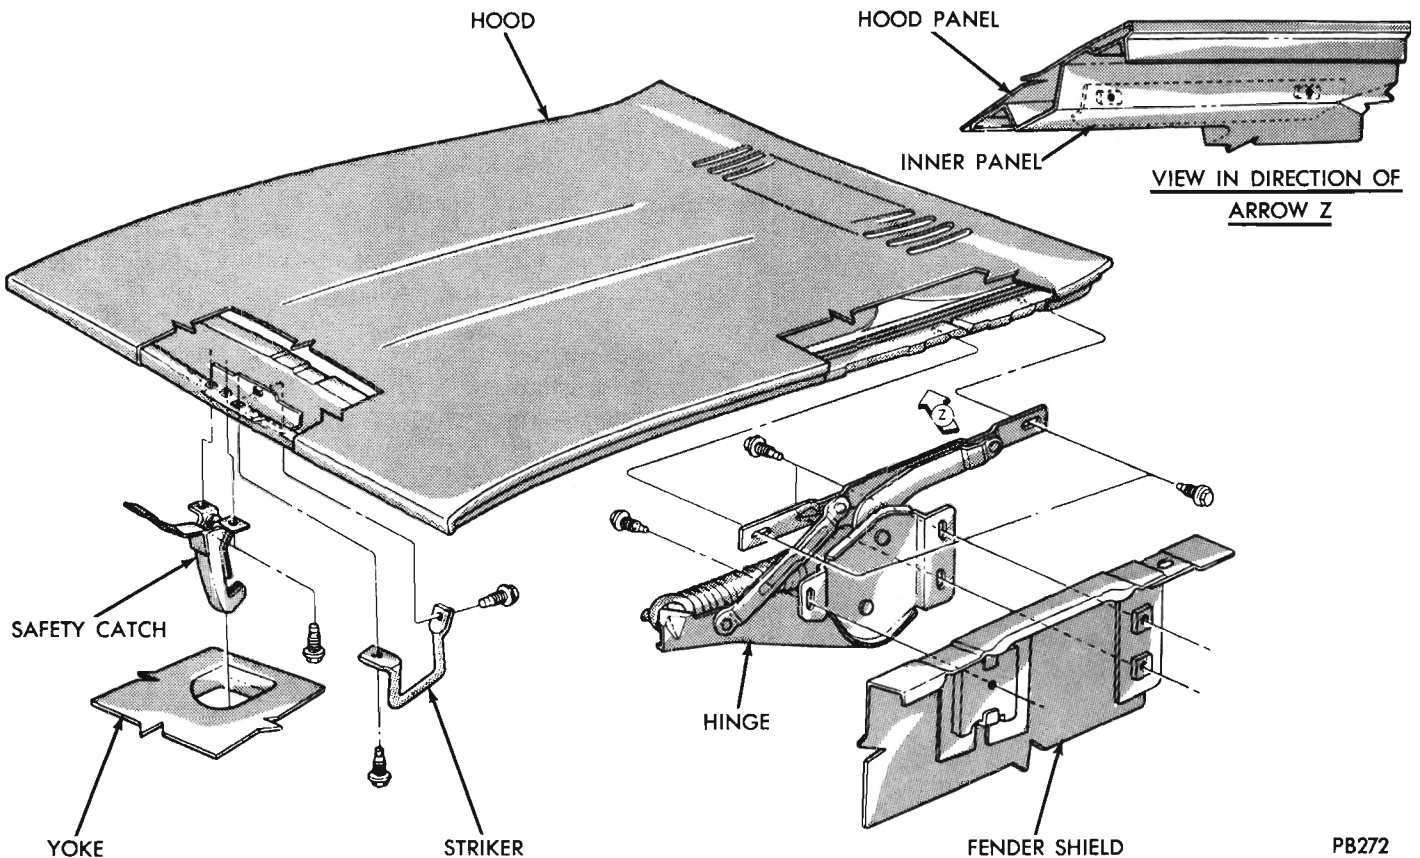

Fig. 6 - Hood Adjustment
(2) Mark outline of hinges on hood to aid in installation (Fig. 6).
(3) With an assistant, remove hinge-to-hood attaching bolts and remove hood assembly. Use extreme care not to permit hood to slide rearward and damage painted surfaces of the cowl and fender areas.
(1) With an assistant, position hood on hinges and install hinge to hood bolts. Do not tighten.
(2) Align scribe markings on hood with hinge and tighten screws lightly.
(3) Close hood and inspect hood alignment.
(4) Adjust the alignment (Figs. 6 and 7) as necessary and tighten the hood to hinge bolts 180 inch-pounds.
(5) Remove protective covering from cowl and fender area.
The hood hinge (Fig. 6) is attached to the hood by two screws and to the fender splash shield by three screws. Prior to removing the hinge mounting screws, prop the hood into the wide open position. The prop should be positioned so the hood cannot move rearward.